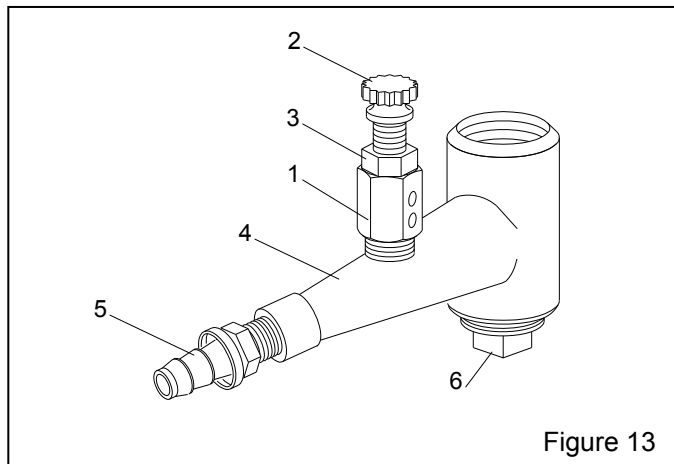

Figure 13
9.5 Metering valve assembly, Figure 13